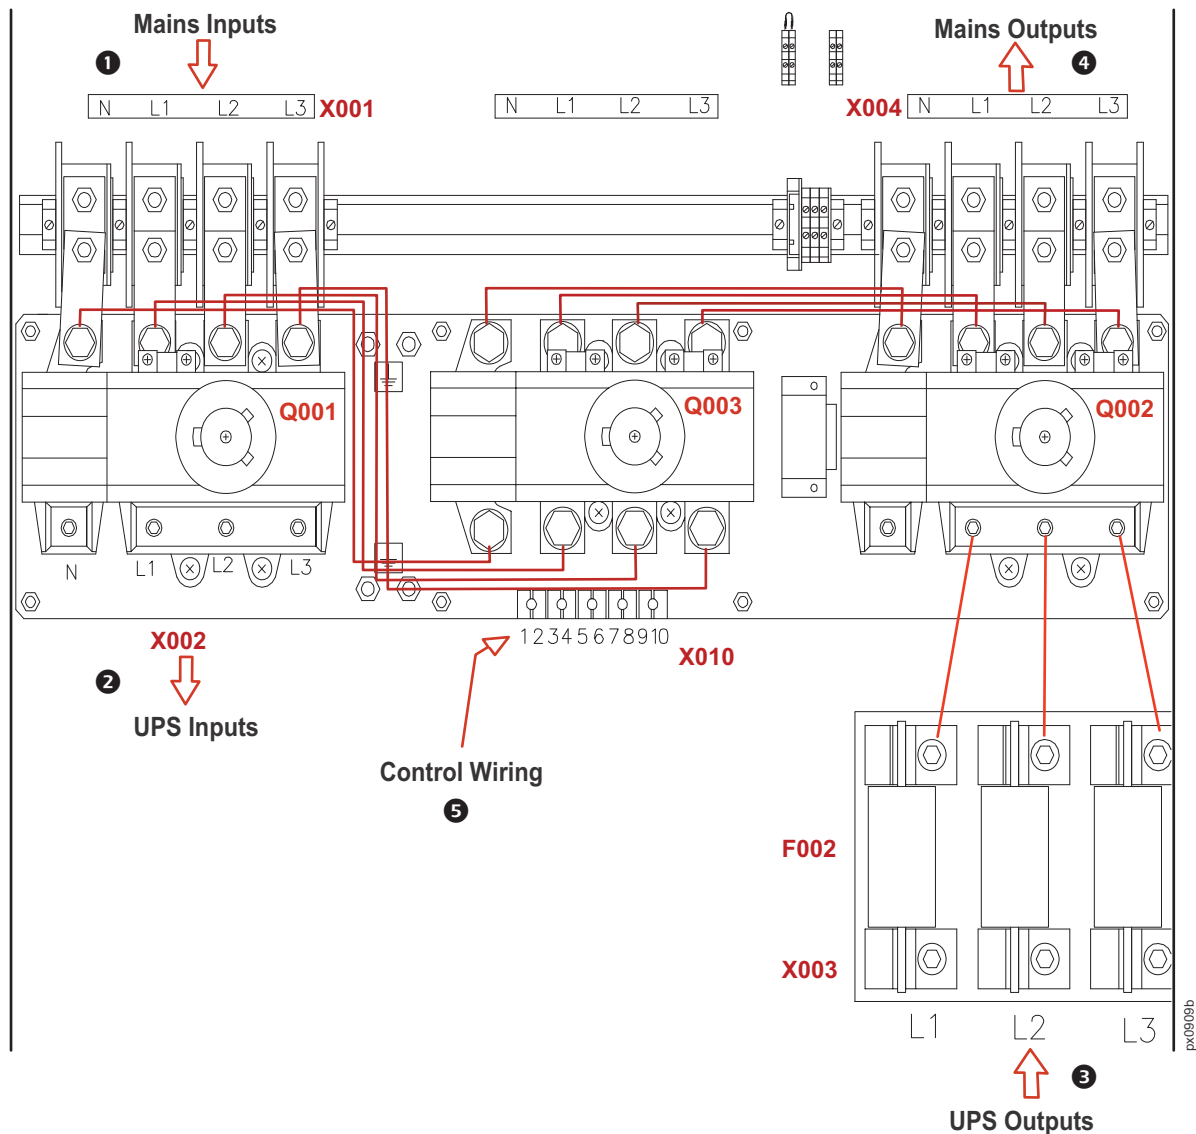

Figure 1. Service Bypass Panel (SBP) interior view
- 1 Connect the upstream utility cables to the main input terminals (X001) on the SBP. (See Figure 1.)
- 2 Connect the UPS AC input cables to the Q001 input terminals (X002) on the SBP (Figure 1).
- 3 Connect the UPS AC output cables to the F002 output terminals (X003) on the SBP (Figure 1).
- 4 Connect the cables from the SBP mains output terminals (X004) (Figure 1) to load equipment/distribution.